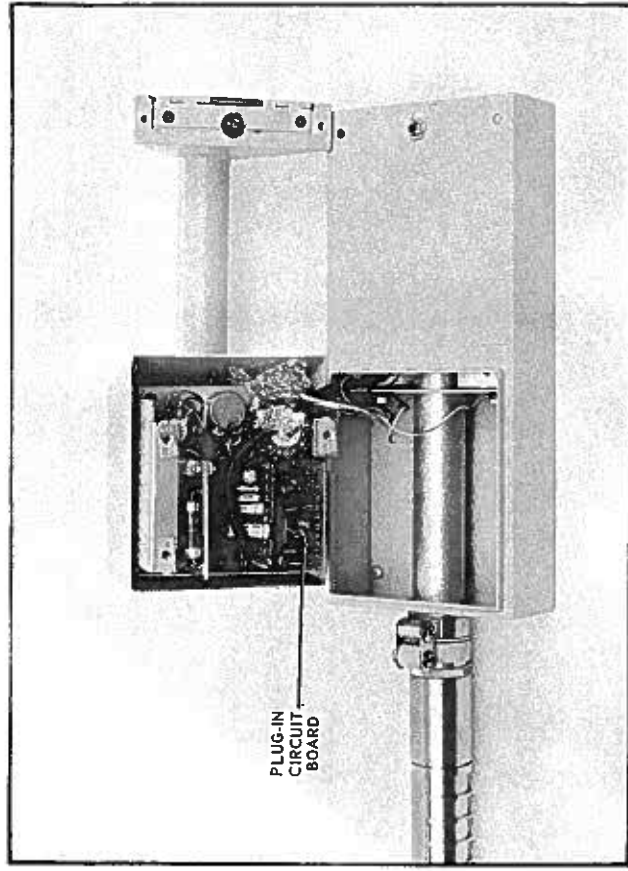

FIGURE 6 - SEPARATING CASE
5. Gently separate the two sections of the instrument case, being careful not to place any strain on the electrical cables which connect the two sections (see Figure 6).
6. All transistors except the power supply transistor (Q5) are located on a plug-in printed circuit board next to the MR/HR control (see Figure 6). This circuit board is keyed to its receptacle strip to prevent reversal in reassembly. The schematic designations of the transistors are marked on the foil side of the circuit board for convenience. Use exactng soldering techniques when removing and replacing the transistors.